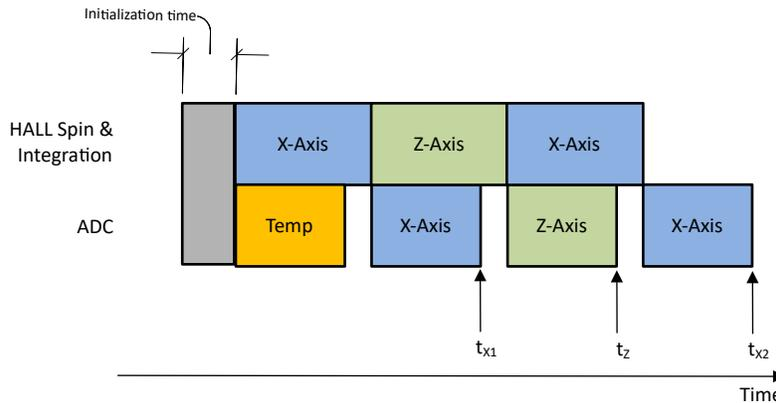

图 7-3. XZX Magnetic Field Conversion
In absolute angle measurement, application sensor data from multiple axes are required to calculate an accurate angle. The magnetic field data collected at different times through the same signal chain introduces error in angle calculation. The TMAG5170D-Q1 offers pseudo-simultaneous sampling data collection modes to eliminate this error. 图 7-3 shows an example where MAG\_CH\_EN is set at 1101b to collect XZX data. 方程式 7 shows that the time stamps for the X and Z sensor data are the same.
- $t_{x1}$ ,  $t_z$ ,  $t_{x2}$  are time stamps for X, Z, X sensor data completion as defined in 图 7-3.